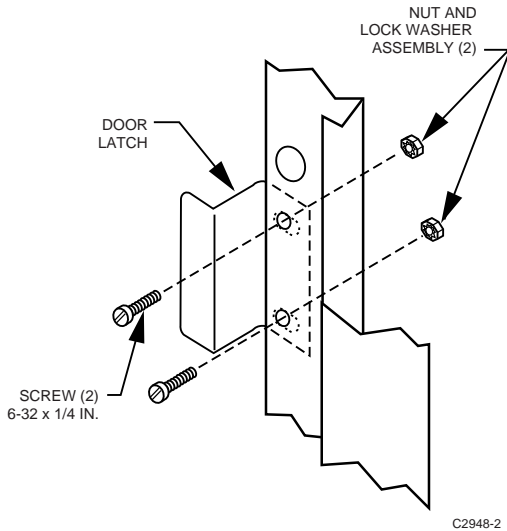
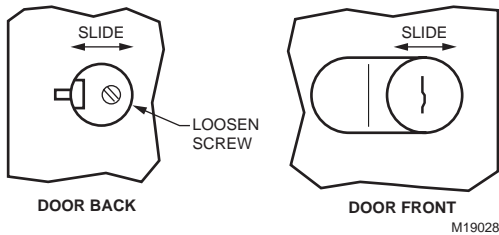

Fig. 11. Door latch adjustment.
Fig. 12. Lock adjustments.
1. Adjust the Door Latch (Fig. 11) and Lock (Fig. 12) to ensure a tight fit.
1. Remove the Door Latch (Fig. 11) and save the two 6-32 x 1/4 in. (6 mm) screws. The two nut and lockwasher assemblies can be discarded.